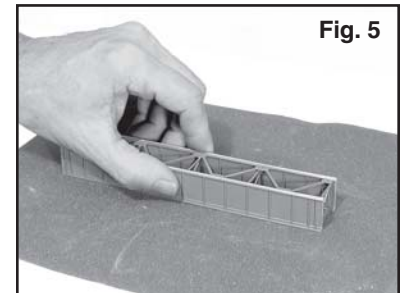

Fig. 5
6. After the cement has dried sufficiently, place the span assemblies on a sanding block and sand off the draft angle and parting line from the top and bottom edges of the girders. See fig. 5.
7. Cement two **long rivet plates** part (4) to the bottom edge of each girder, locating them so their ends butt together at the center of the girder. Cement the **bridge shoes** part (5) on the bottom edge and at the ends of each girder.
8. Open Deck Bridge Only - Cement the **guard timbers** part (6) to the top of the **Bridge Flex-Trak** ties part (7).